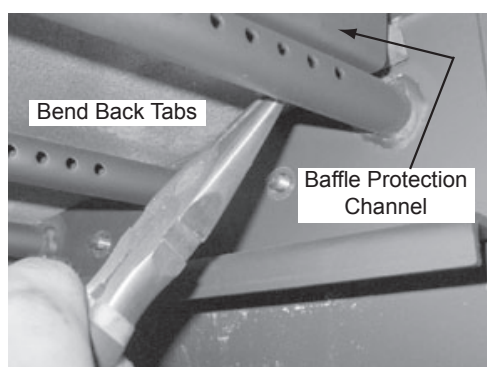

Figure 25.1
3. Remove the baffle protection channel by bending back the tabs using needle nose pliers located at the right and left side of the protection cover. Lift the cover up slightly and pull toward the front and out of the firebox. **Figure 25.1.**